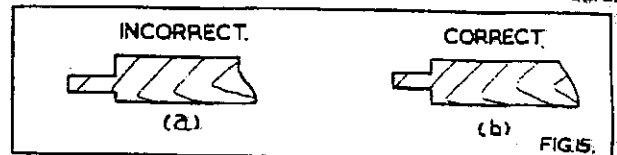

FIG. 15.
3. To check this setting feed a short piece of timber from the rear along both sides of the riving knife. If the riving knife is correctly set the blade will cut equal shoulders as shown in fig. 15 (a) and when incorrectly set unequal shoulders as shown in fig. 15 (b).